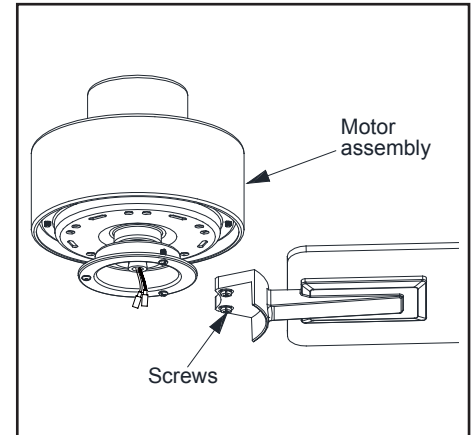

Figure 14
3. Fasten the blade assembly to the motor by inserting the alignment post into the slot on the bottom of the motor and tightening the motor screws. Please note that the motor screws are pre-attached into the blade brackets (Figure 14).